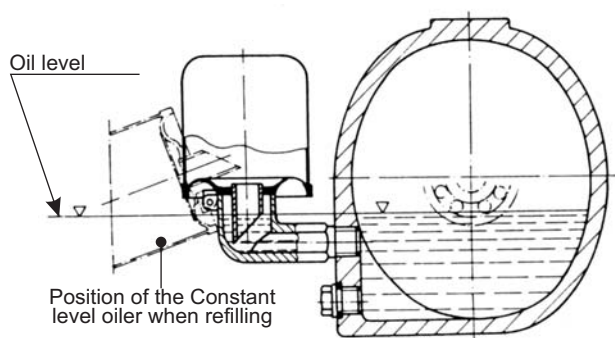

Fig. 18 - Constant level-oiler
Wait approximately 10 minutes until part of the oil go down automatically from the reservoir to the bracket, completing the necessary level, which is stated at the central line of the bearing lowest ball, as shown on fig. 18.
- Cut the new packing rings, if possible with slanted ends (see fig. 18). To facilitate this cutting operation a very simple device may be constructed as shown in fig.19.